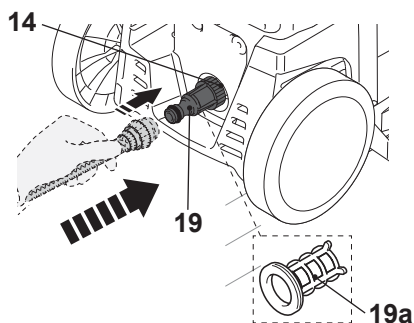

Fig. 11
- > Attach the water hose adaptor (19) on the water inlet (14).
- > Attach a suitable water hose (not included) onto the water supply and then the other end onto the water hose adaptor (19) (Fig. 11).